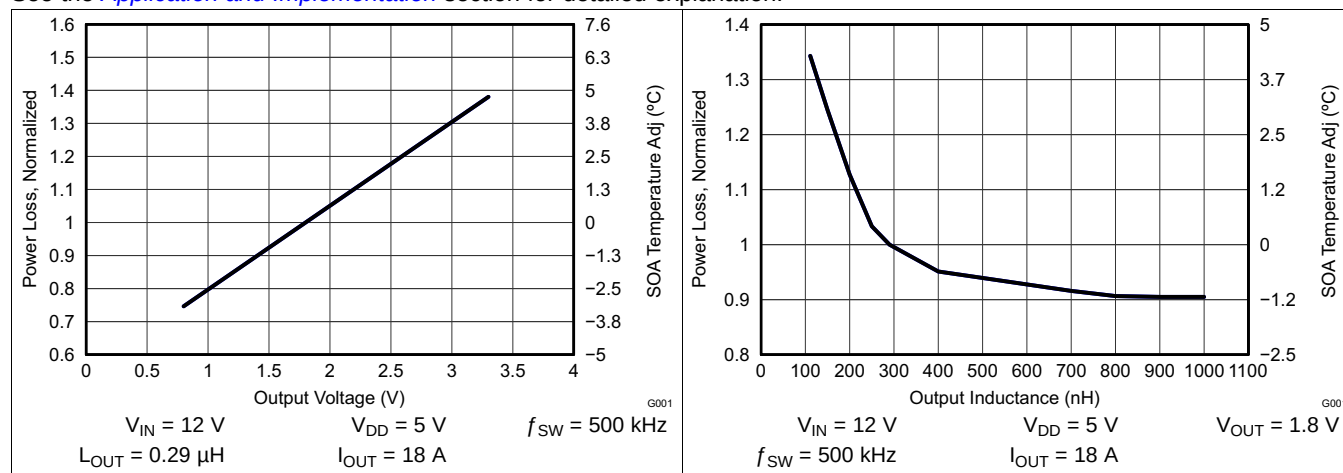

Figure 7. Normalized Power Loss vs Output Voltage
- Normalized power loss for output voltage ≈ 0.92 (Figure 7)
- SOA adjustment for output voltage $\approx -0.9^\circ\text{C}$ (Figure 7)